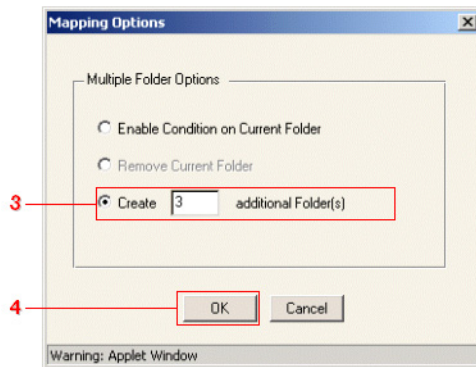

Figure 24-3. Select the **Create... Additional Folder(s)** radio button to add extra folders.
- 3 The **Mapping Options** dialog will appear (see Figure 24-3 below). Since you have three data elements you want to map separately, select the **Create... Additional Folder(s)** radio button and enter the number 3.